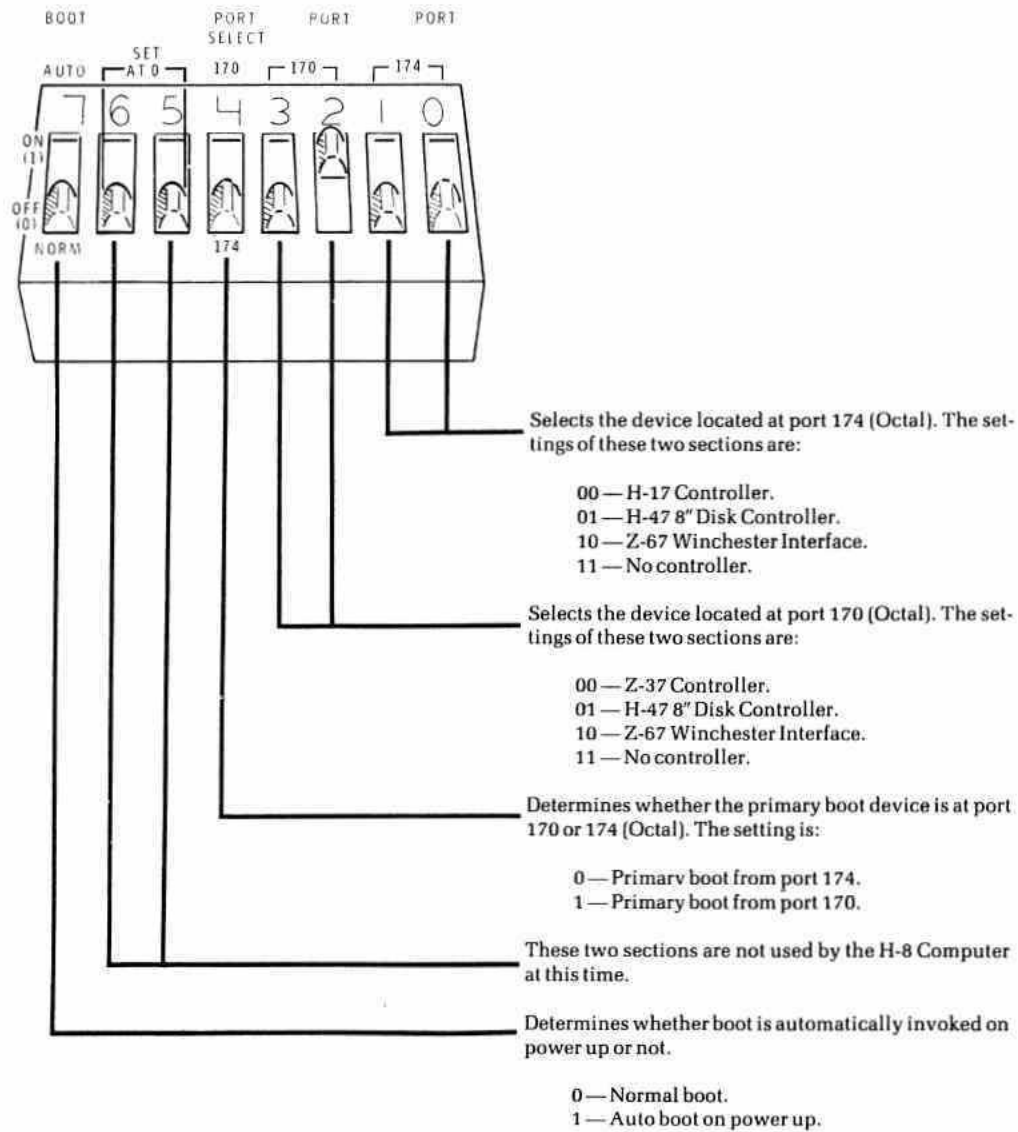

Figure 7.2: ORG 0 Extended Configuration Settings
1. Refer to Figure 7.2 on page 18 to set the Extended Configuration 8-position DIP switch at SW1 (Status Port). Note the numbering on the switch may not match the numbering on the silkscreen. Always use the number on the silkscreen. Also, the mechanism for closing the switch varies with the switch. Always use the documentation on the switch to determine the on/off position.